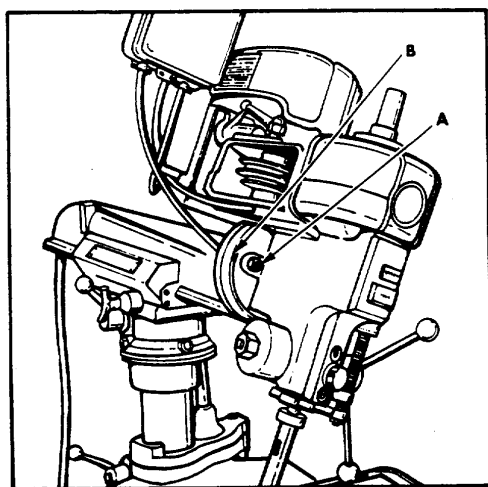

Figure 13
The drill head can be tilted up to 45 degrees right and left. To tilt the head, slightly loosen the two locks, one of which is shown at (A) fig. 13, tilt the head to the desired position and tighten the two locks (A). An easy to read head tilt scale (B) and pointer permits setting of head at exact angle desired.